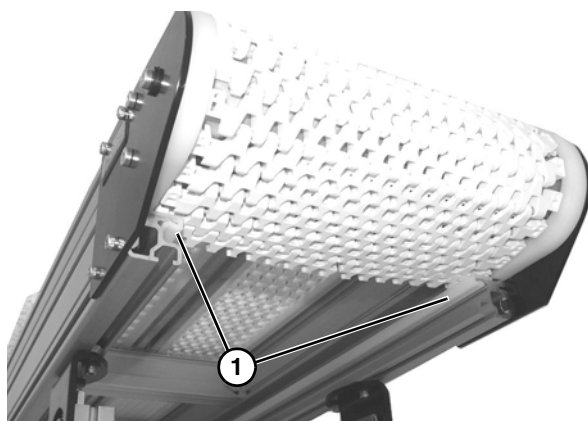

Figure 16
4. Install belt around lower frame section and above lower wear strips (**Figure 16, item 1**).